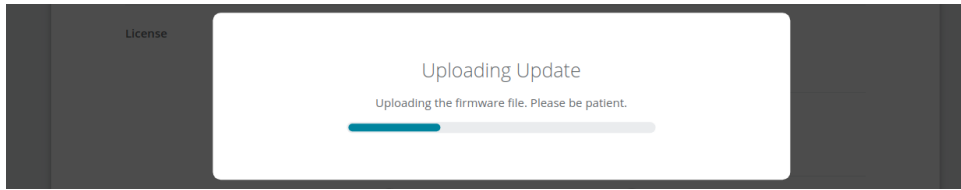
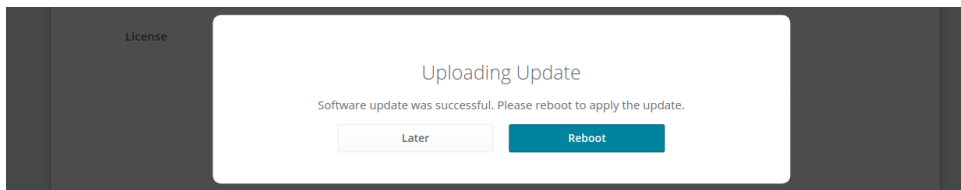

Fig. 8.2: Software update progress bar
Fig. 8.3: Software update rebooting screen
**Note:** Depending on the network architecture and configuration the upload may take several minutes. During the update via the Web GUI, a progress bar indicates the progress of the upload as shown in Fig. 8.2.
**Note:** Depending on the web browser, the update progress status shown in Fig. 8.2 may indicate the completion of the update too early. Please wait until the context window shown in Fig. 8.3 opens. Expect an overall update time of at least five minutes.
After having uploaded the new firmware via the Web GUI, a context window is opened as shown in Fig. 8.3 offering to reboot the device immediately or to postpone it. To reboot the *rc\_cube* at a later time, use the *Reboot* button on the Web GUI's *System* tab.